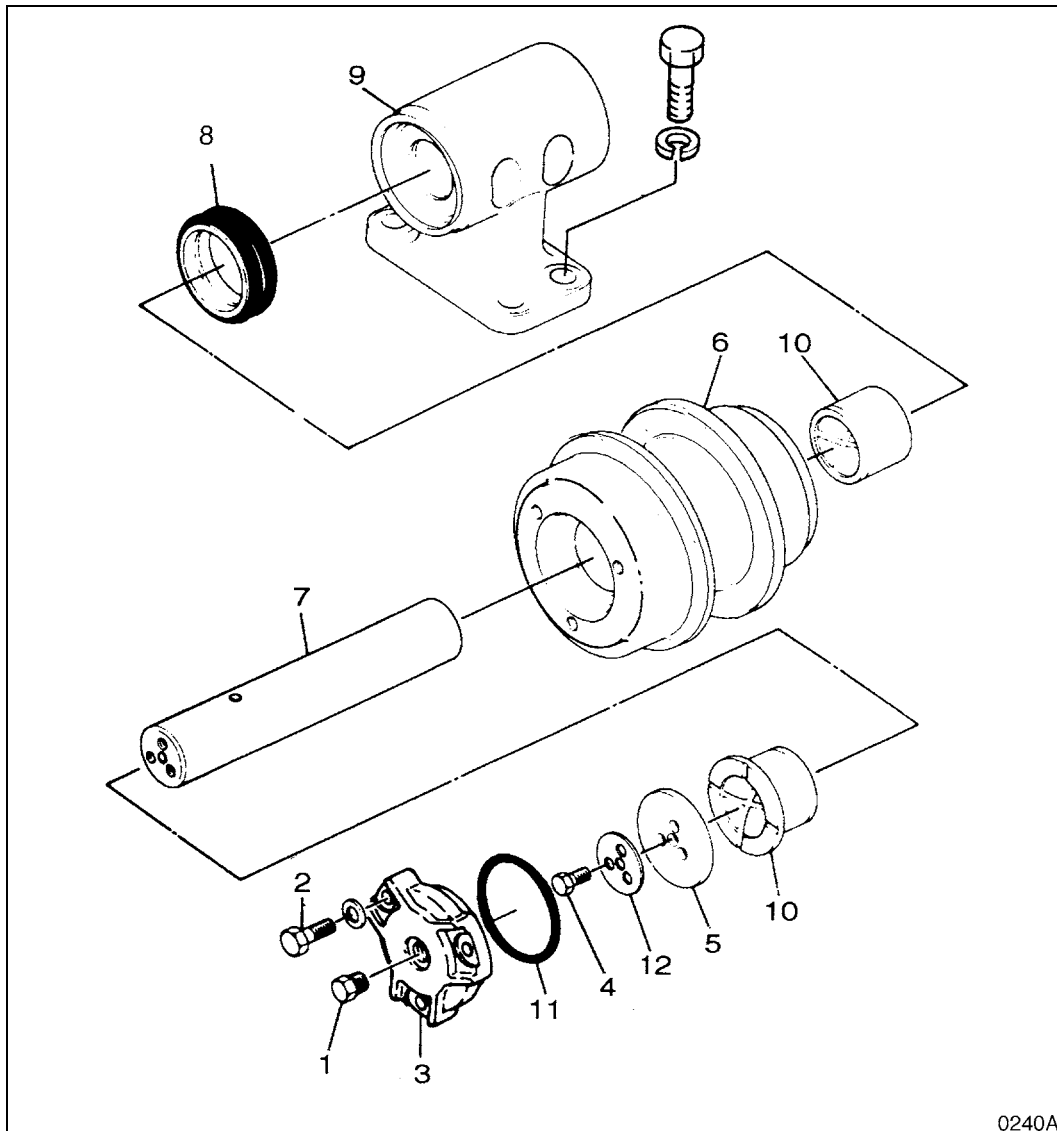
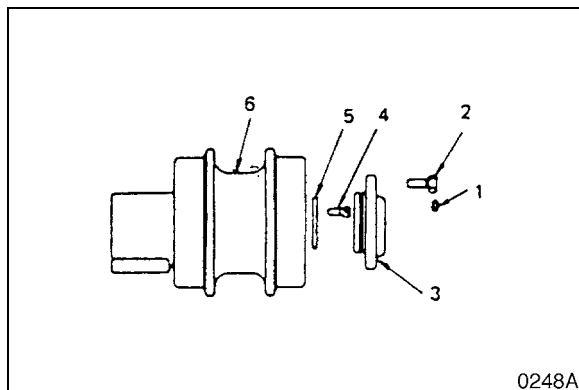

Figure 37
Figure 46
3. Install the axle, washer (5, Figure 46) and bolt (4).
4. Attach group seal (8, Figure 37) to the roller (6, Figure 46) and cover (3).
5. Insert the O-ring (11, Figure 46) to the cover. Attach cover (3) and bolt (2) to the roller.